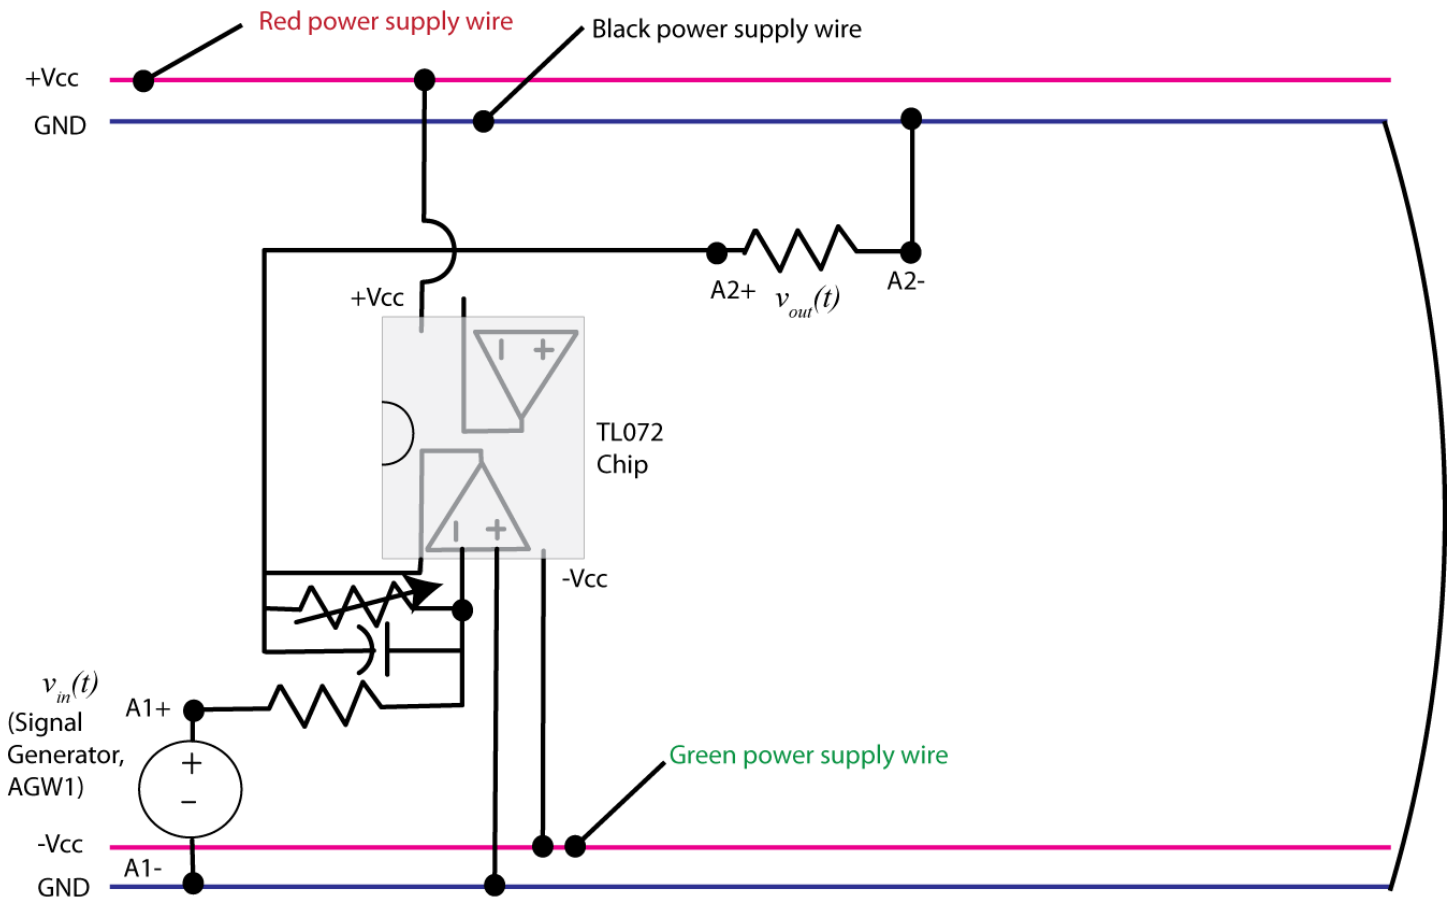

Figure 2. Prefilter (gain) circuit.
1) Build the lowpass, shown in Figure 2. We have included a load resistor for measuring the output. The input to this circuit should be the signal generator, and the output should be the voltage across the load resistor. Set the input to a 10 Hz sine wave with an amplitude of 1 volt (peak to peak value of 2.0 volts) and 0 volt offset. Start the oscilloscope and set the input on channel 1 to **A1-Diff** and use this to measure the input signal (never trust a signal generator) and the input on channel 2 to **A2-Diff**, and use this to measure the voltage drop across the load resistor. Set channel 1 to **500 mv/div** and channel 2 to **250 mv/div**. Set the **Time/Div** to 20.00 ms/Div and the **Mode** to **Y-T**. The coupling should be set to **AC** for both channels. Adjust the variable resistor so the output has an amplitude of approximately 0.3 volts (0.6 volts peak to peak).